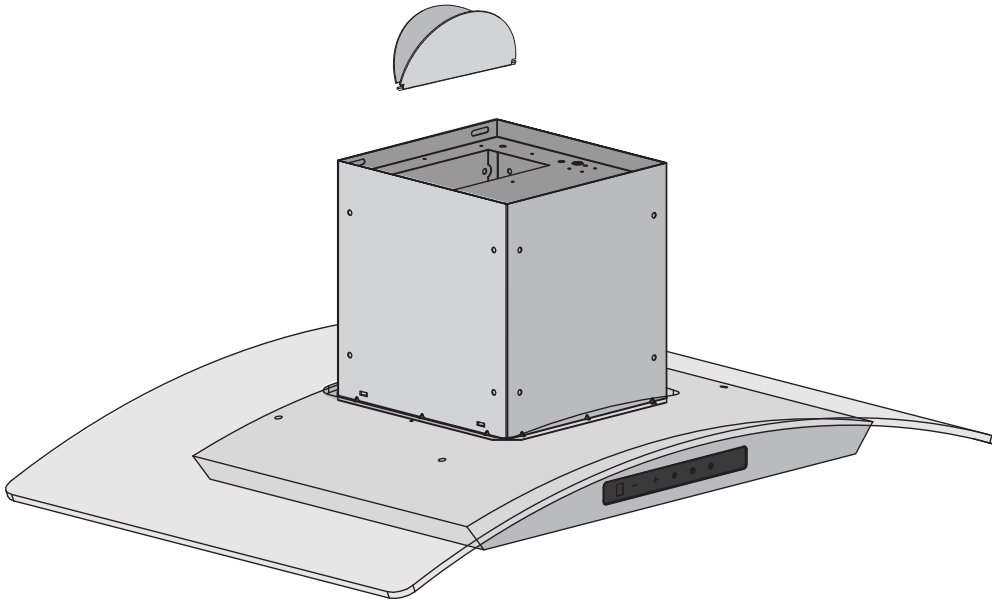

Figure 3
- Fix the damper flap on the top vent of hood (see Figure 3).